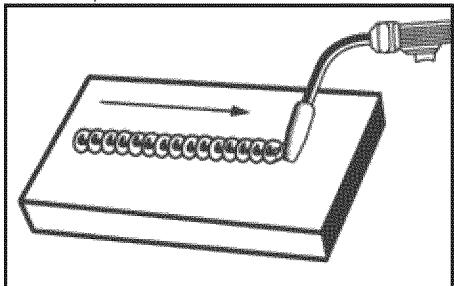

Fig. 12a
- STRINGER BEAD is formed by traveling with the torch in a straight line while keeping the wire and nozzle centered over the weld joint. (Fig. 12a)